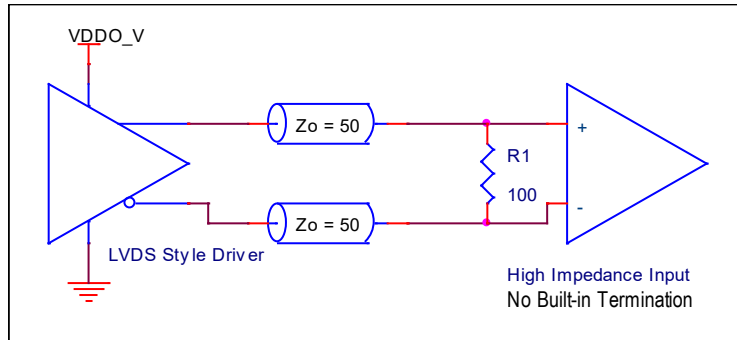
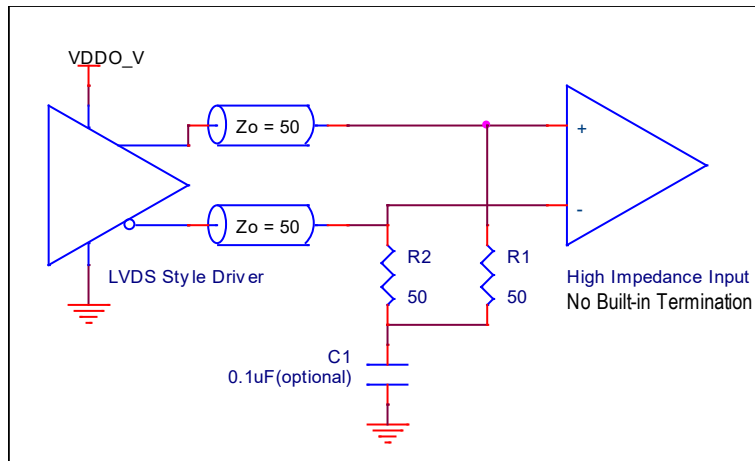
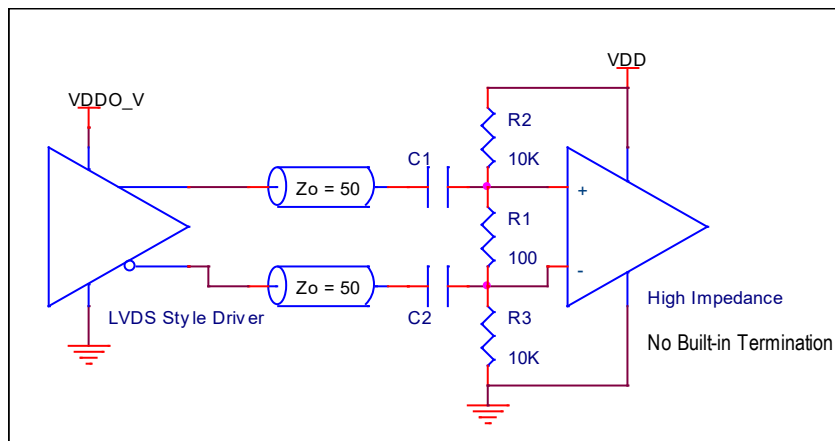

Figure 15. LVDS Style Driver Termination (DC Coupled)
Figure 16. LVDS Style Alternative Driver Termination (DC Coupled)
Figure 17. LVDS Style Alternative Driver Termination (AC Coupled)
Unlike the LVPECL style driver, the LVDS style driver does not require a board level pull-down resistor. Figure 15 and Figure 16 show typical termination examples with DC coupling for the LVDS style driver. A termination example with AC coupling is shown in Figure 17. All three figures are for LVDS receivers with a high-input impedance (no built-in 100Ω termination). For receivers with built-in 100Ω termination, see the note below Figure 17.
*Note:* For receivers with built-in 100Ω termination that provides its own DC offset (self-bias), apply the AC-coupled termination shown in Figure 17 and do not populate the resistors R1, R2, and R3.